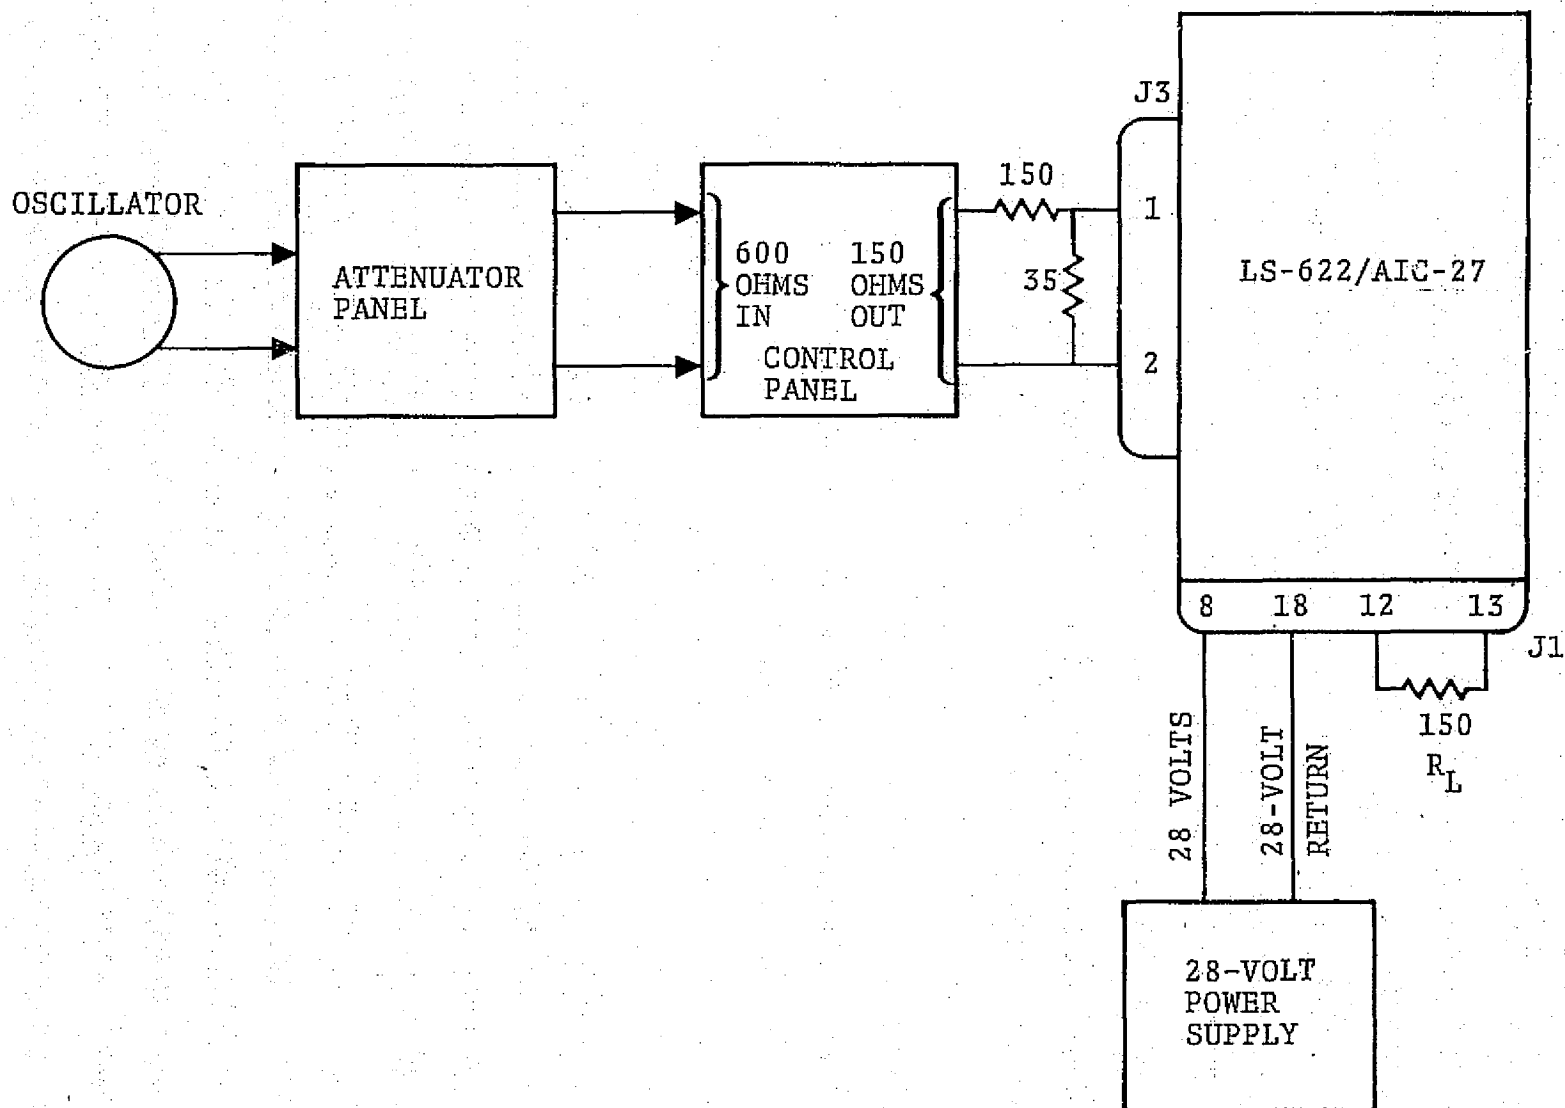

Figure 3-1. — Test setup: transmit section.
1. Connect the equipment as shown in figure 3-1.